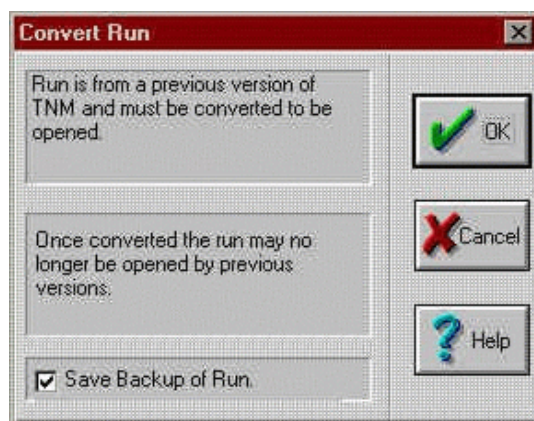

Figure 2. Convert Run dialog.
2.1.2 Open. Opening a Version 1.0, 1.0a, or 1.0b TNM run will display the **Convert Run** dialog (see Figure 2). Once the user selects OK, TNM will automatically convert and open the selected run into a Plan View. Note to use the original unconverted run, save a backup of the run before selecting the OK button in the Convert Run dialog. The “Save Backup of Run” checkbox in the dialog allows the user to automatically save a copy of a run as “Backup of Run_Name” prior to conversion.